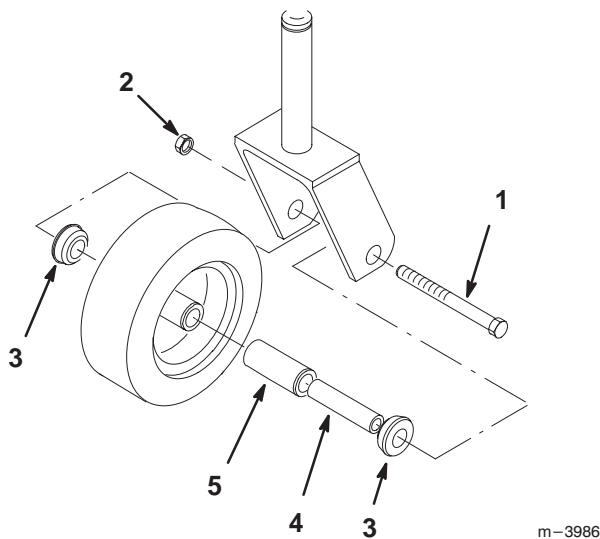

Figure 33
1. Remove the locknut and wheel bolt holding the castor wheel to the castor fork (Fig. 33).
2. Remove one bushing, then pull the spanner bushing and roller bearing out of the wheel hub (Fig. 33).
3. Remove the other bushing from the wheel hub and clean any grease and dirt from the wheel hub (Fig. 33).
4. Inspect the roller bearing, bushings, spanner bushing and inside of the wheel hub for wear. Replace any defective or worn parts (Fig. 33).
5. To assemble, place one (1) bushing into the wheel hub. Grease the roller bearing and spanner bushing and slide them into the wheel hub. Place the second bushing into the wheel hub (Fig. 33).
6. Install the castor wheel into the castor fork and secure with the wheel bolt and locknut. Tighten the locknut until the spanner bushing bottoms against the inside of the castor forks (Fig. 33).